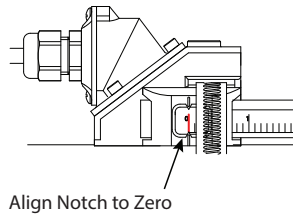

Figure 12: Align to zero
4. Place the first transducer at the zero point on the scale. Slide the clamp over the transducer. Adjust the clamp and transducer so the notch in the clamp aligns with the zero on the scale. See *Figure 12*.